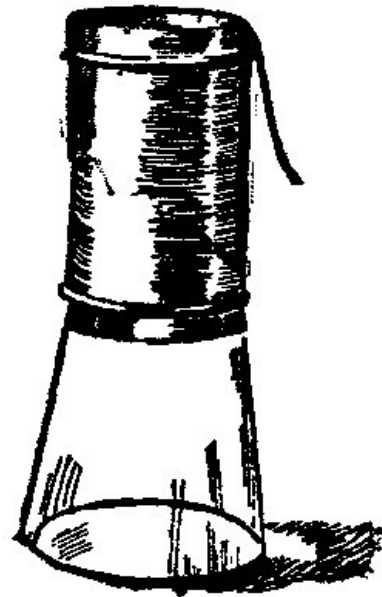

Fig. 114.
**247. To Show Where a Charge of Static Electricity Resides.** Fig. 114. This shows a tin baking-powder box placed upon a hot tumbler. A moist cotton thread is hung over the edge of the box. (See experiments in text-book.) The box will become charged by touching it with a charged body. The thread will show whether the charge resides upon the inside or upon the outside of the box.